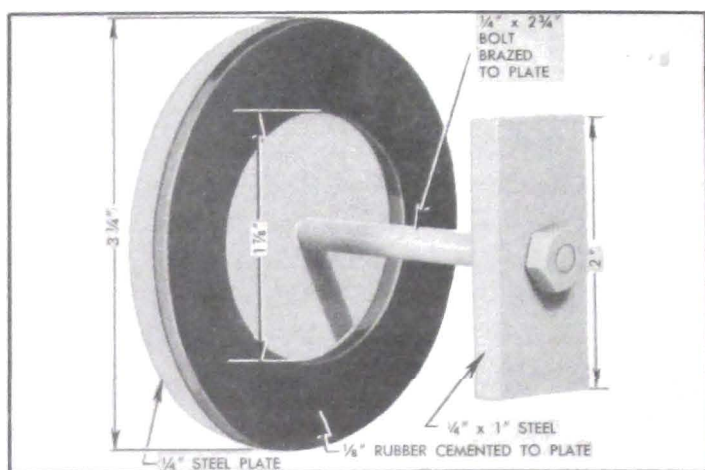

Figure 4-21—Plate and Washer for Pump Test
1. Prepare a plate with rubber washer to close the opening in converter pump hub, as shown in figure 4-21. The bolt head should be brazed to the plate to seal the bolt hole, and